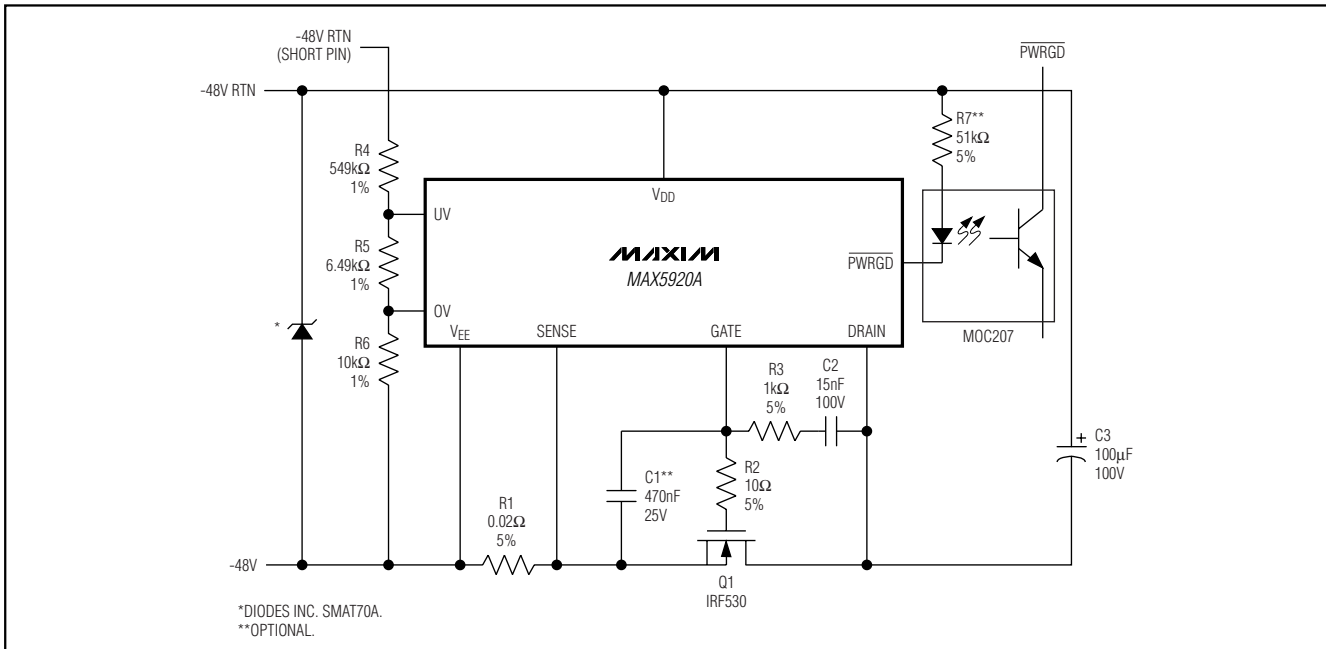

Figure 14. Using  $\overline{\text{PWRGD}}$  to Drive an Optoisolator
The  $\overline{\text{PWRGD}}$  signal can also be used to turn on an LED or optoisolator to indicate that the power is good (Figure 14) (see the *Component Selection Procedure* section).
- If an optocoupler is utilized as in Figure 14, determine the LED series resistor: